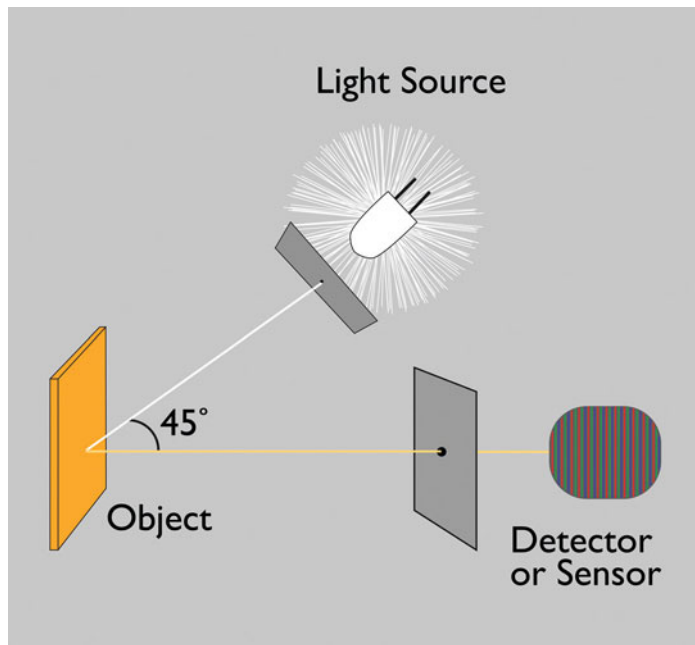

FIGURE 2.9 Color-measurement geometry.
- *Measurement geometry* is the angle at which the incident light falls on the measured object and is reflected to the viewer. In the example in Figure 2.9, the measurement geometry is 45 degrees.